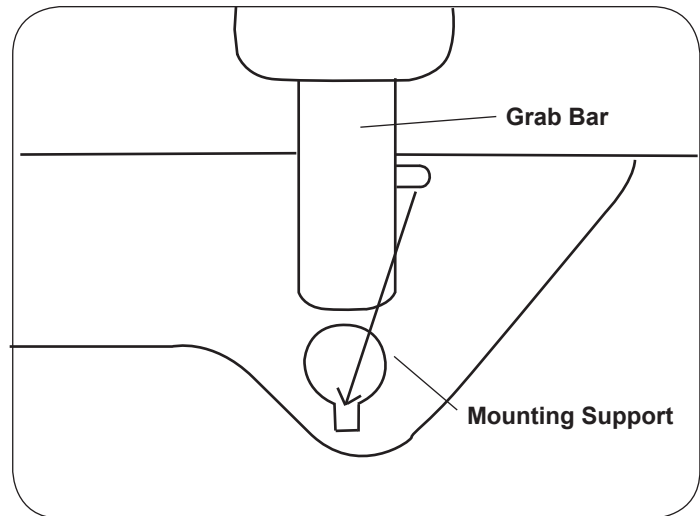

Figure 5.
3. Align pin on grab bar shaft with mating slot on side of table. See Figure 5.